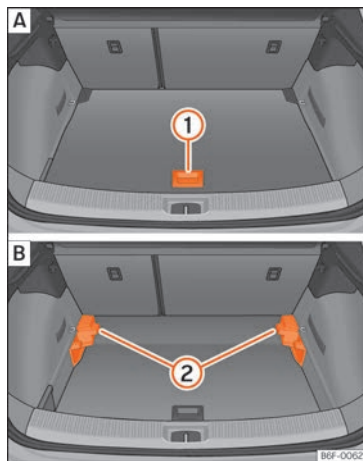

Fig. 147 Variable luggage compartment floor:
- To move from the low position to the high position, lift the floor using the handle » Fig. 147 (1), and pull it back until the front of the floor has fully passed the supports (2).
- Move the floor forward over the supports as far as the rear seat backrest and then lower the floor with the handle (1).
- To move from the high position to the low position, lift the floor using the handle » Fig. 147 (1), and pull it back until the front of the floor has fully passed the supports (2).
- Now let the front part fall to the floor and slide the floor forwards as far as the rear seat backrest; lower the floor at the same time with the handle (1).
- Lift the variable floor in the high position using handle » Fig. 147 (1), pull it up and push it towards the backrest of the rear seats until it folds along the hinge line and the movable part of the floor is resting on itself.